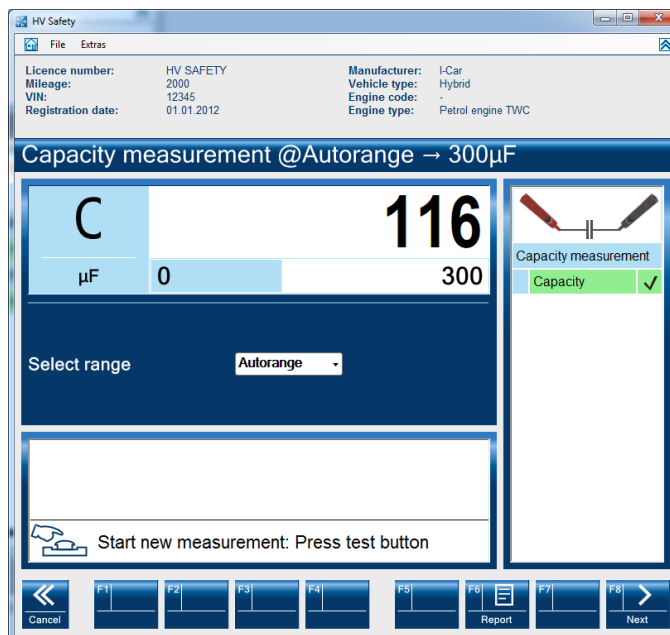

Fig. 3-8
6. The result of the measurement is displayed, see Fig. 3-8